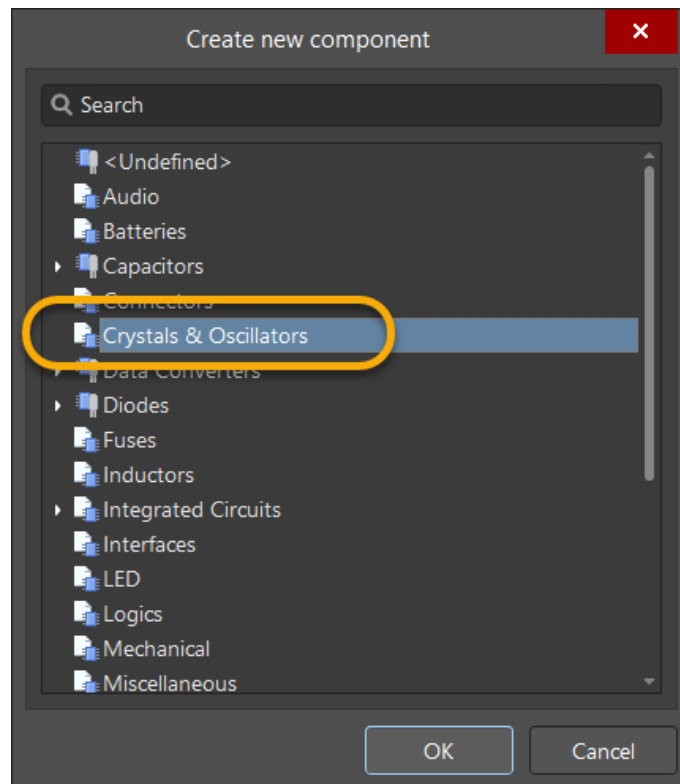

Figure 3. Component Type
- The next steps are the same for both methods. Choose a component type from the list in the Create new component dialog, as shown in Figure 3 below. If there is a component template linked to the selected component type, this template will be used to predefine the component parameters.